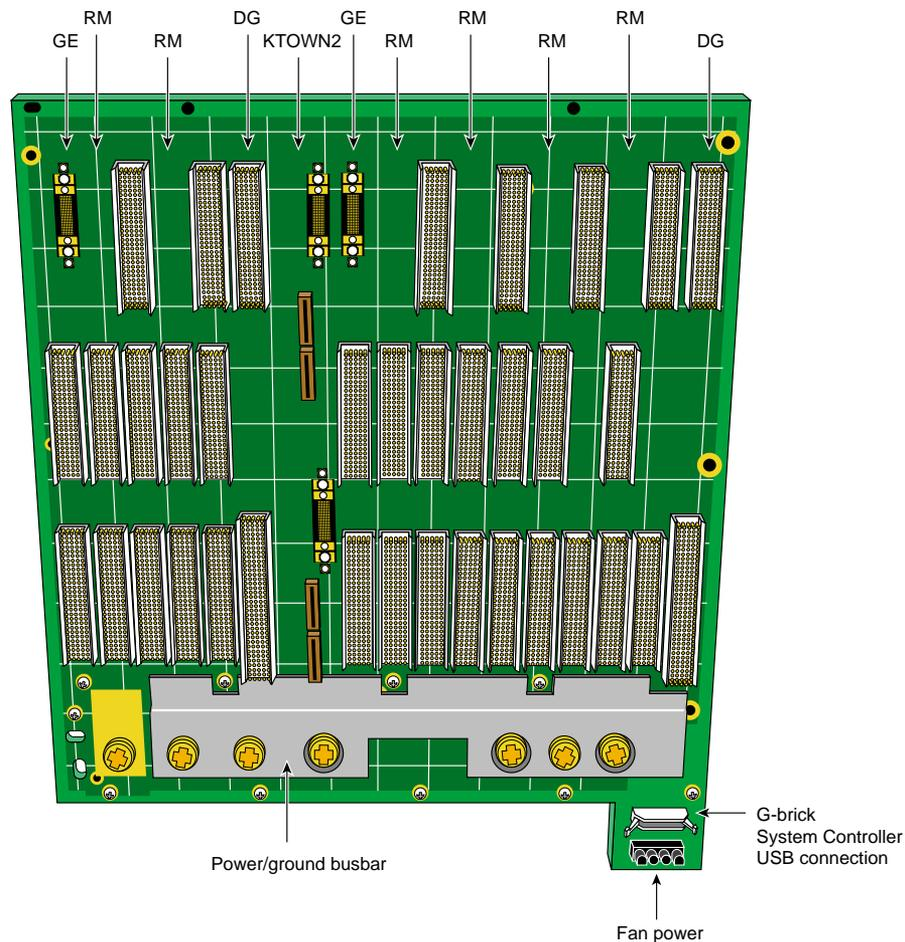

Figure 2-5 G-brick Midplane
- **G-brick midplane.** All graphics and interface boards connect to this midplane. (See Figure 2-5 on page 42.)
The G-brick graphics module uses a midplane. All graphics and interface boards are placed in the rear of the module and connect to the back of the midplane. Figure 2-5 shows a view of the graphics midplane.